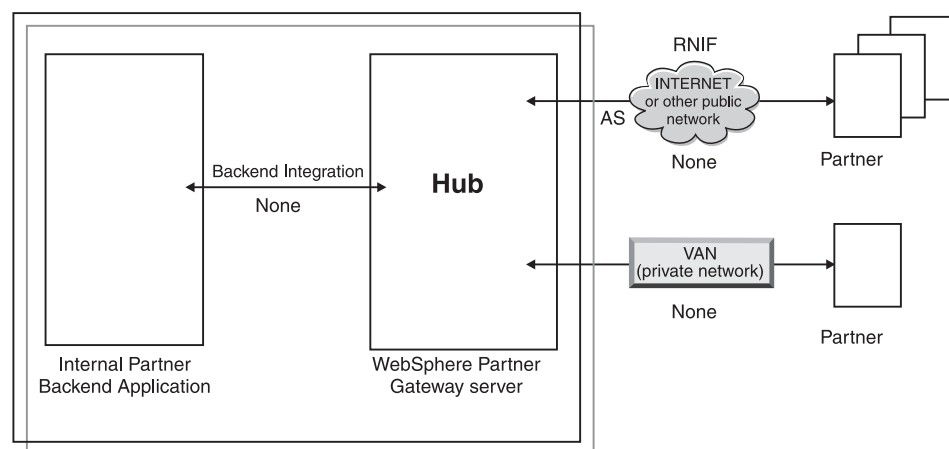

Figure 3. Document packaging types
Figure 3 shows you the packaging types that can be set for documents exchanged between the hub and an external partner and between the hub and a back-end application.
**Backend Integration:** As shown in Figure 3 on page 8, Backend Integration is available only between the hub and the back-end application. When you specify Backend Integration packaging, documents sent by the hub to the back-end system have special header information added. Similarly, when a back-end application sends documents with a packaging of Backend Integration to the hub, it must add header information. The Backend Integration package, and the requirements for the header information, are described in the *WebSphere Partner Gateway Enterprise Integration Guide*.